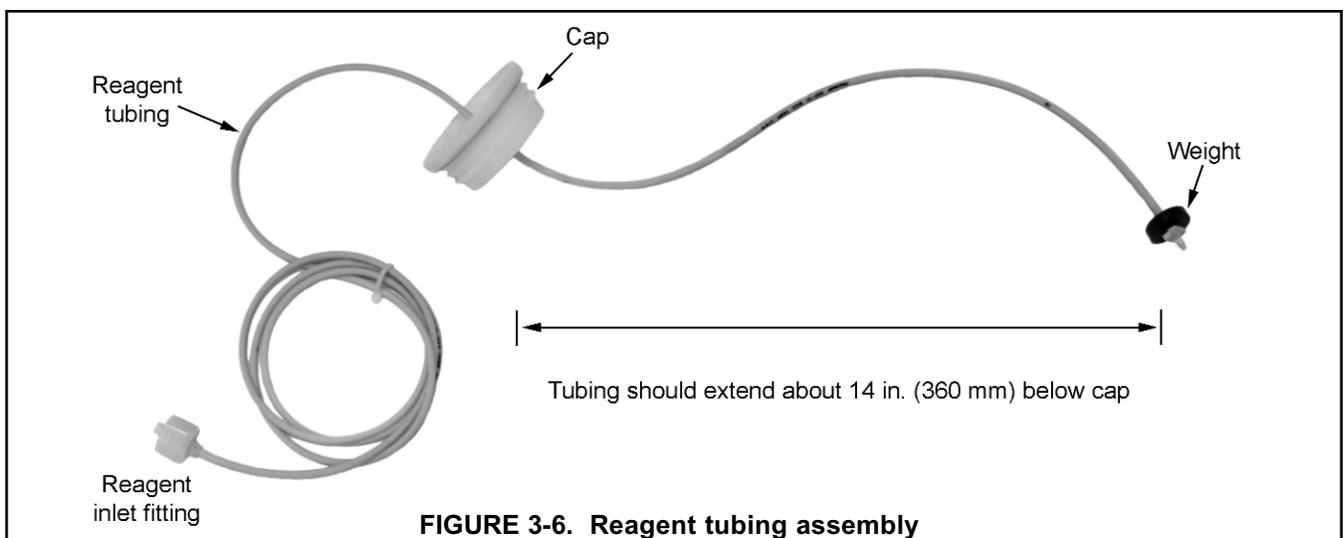

FIGURE 3-6. Reagent tubing assembly
5. Find the reagent tubing and fitting in the plastic bag taped to the inside of the enclosure door. Screw the reagent fitting onto the bulkhead fitting at the bottom left of the enclosure. Pass the reagent tubing through the hole in the carboy cap. Be sure the plastic weight will be inside the carboy when the cap is in place. Attach the reagent tubing to the barbed connector. See Figure 3-6.